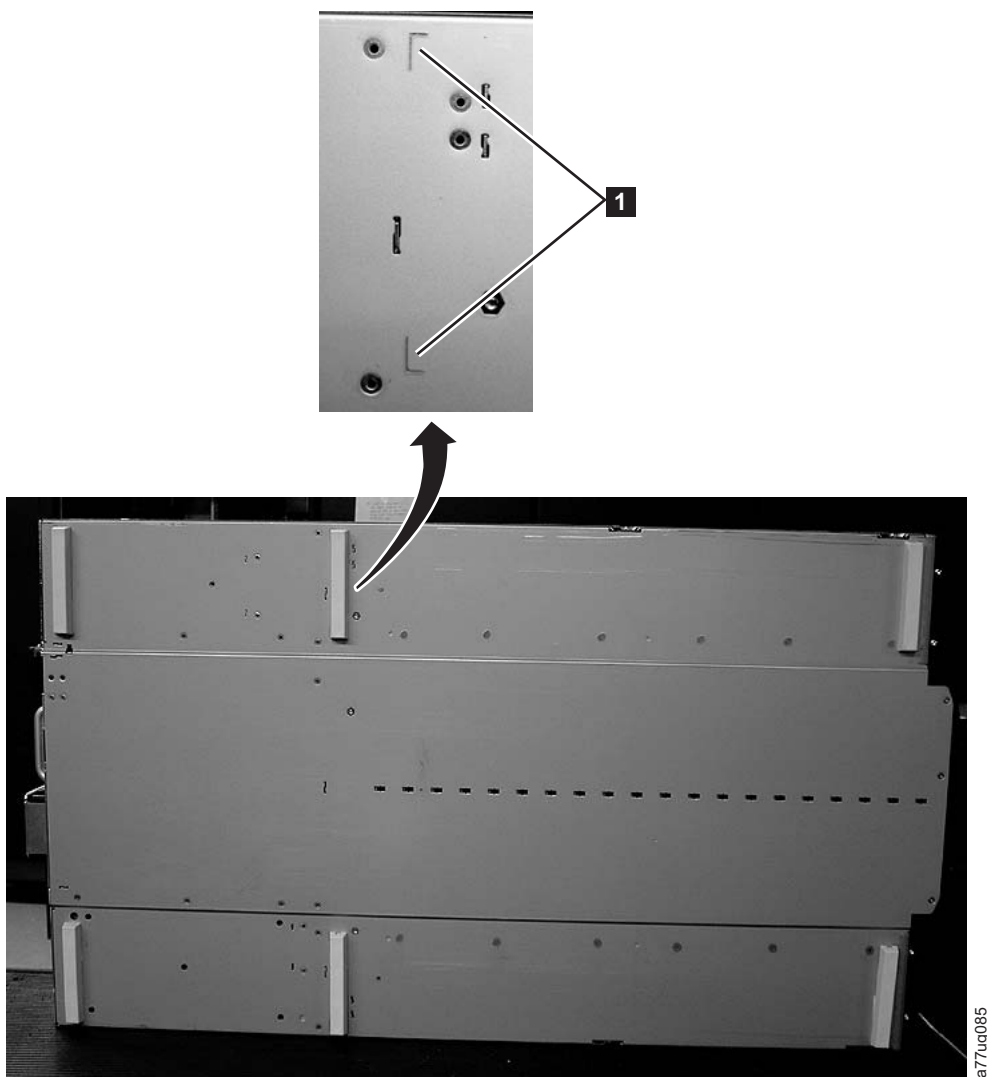

Figure 10-16. Foot pads that are installed on the bottom of the library enclosure
- 3) Install the foot pads on the bottom of the library enclosure by pressing each foot into one of the six areas (**1**) as shown in Figure 10-16 on page 10-16.